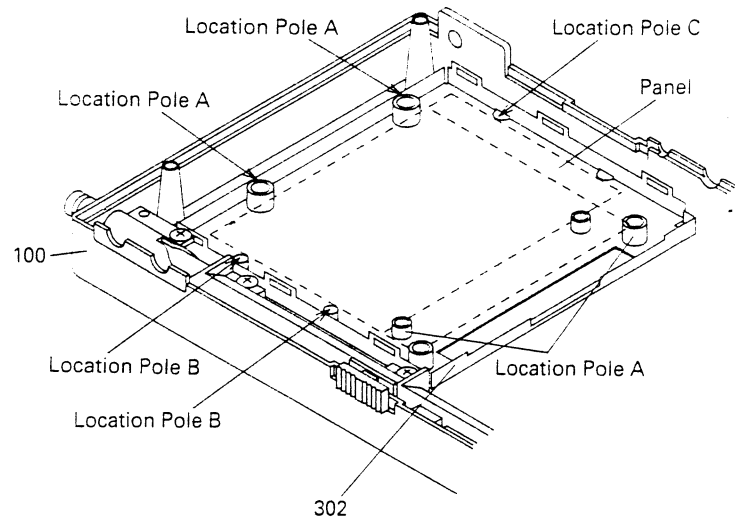

Fig.7
- ① Set the Front Shild Plate of Panel (302) at the Location Poles A, B, C on the Front Case (100). Fig.7
- ② Join the Front Shild Plate of PCB-1 (305) and the PCB-1 by solder.
- ③ Set the Panel of LCD Panel Ass'y (300) at the Location Poles A, B, C on the Front Case (100). Fig.7